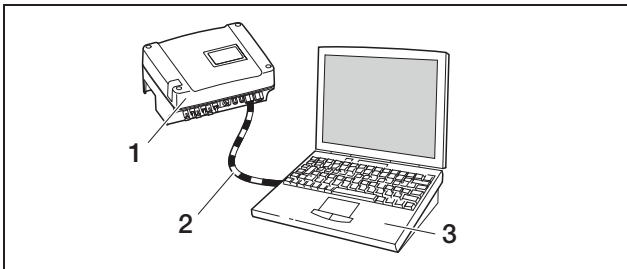

Fig. 25: Connecting inverter and computer with crossover cable
- b) directly via a so-called crossover cable (see figure 25).
Note: Ethernet cables ("network cables") are standard connection cables commonly used for computer networks. These cables are suitable for most applications and available from computer specialty traders. A crossover cable is a special type of Ethernet cable for which the plugs are occupied differently. In this way two devices can be directly connected to one another without a switch or hub being necessary. You only require a crossover cable when you wish to connect the inverter directly to a computer, meaning without a switch/hub (Fig. 25).